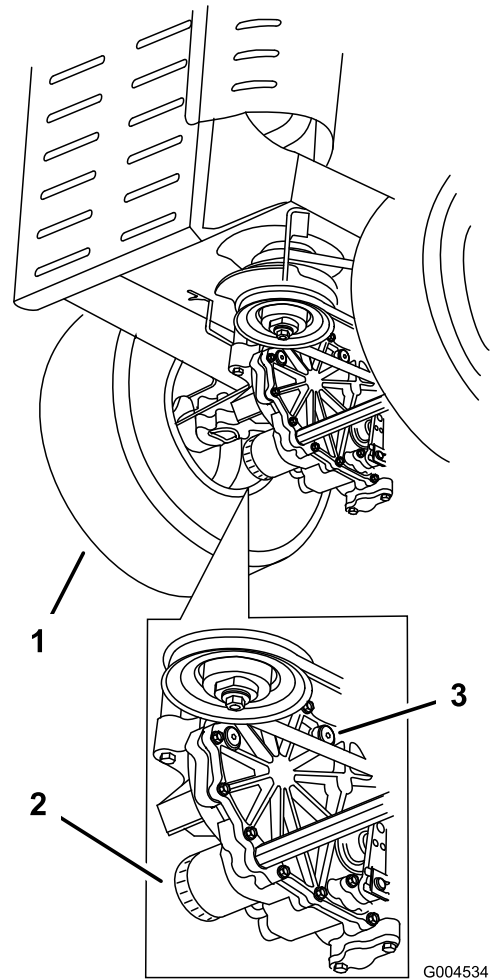

Figure 51
4. Carefully clean the area around the filters. It is important that no dirt or contamination enter the hydraulic system (Figure 51).
5. Unscrew the filters and allow the oil to drain from the drive system (Figure 51).